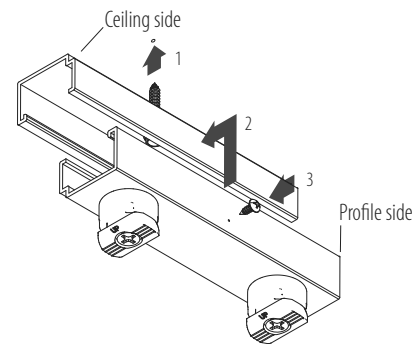

Figure 3a
- Connect the profile side installation rails to ceiling side installation rails. (Figure 3a)